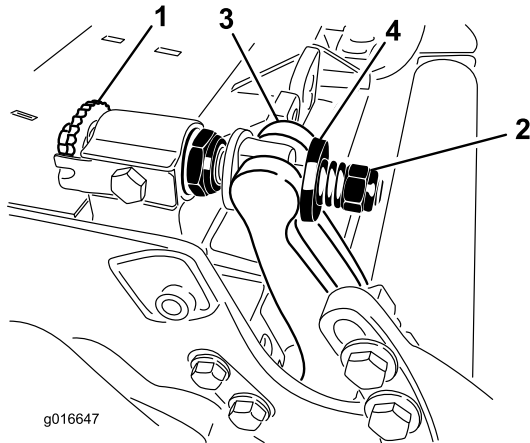

Figure 28
1. Turn bedbar adjuster screws counterclockwise to back the bedknife away from reel (Figure 28).